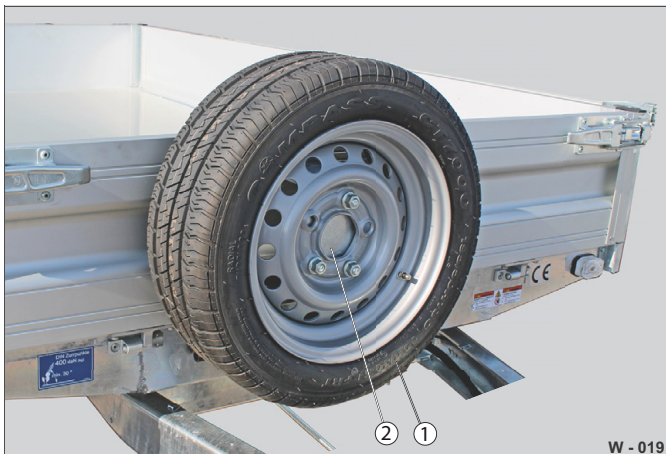

Fig. 21 Example: Spare wheel on drop side
► Check the screw connections (Fig. 22 /3) for the spare wheel holder (Fig. 21 /2) to ensure they are tight.